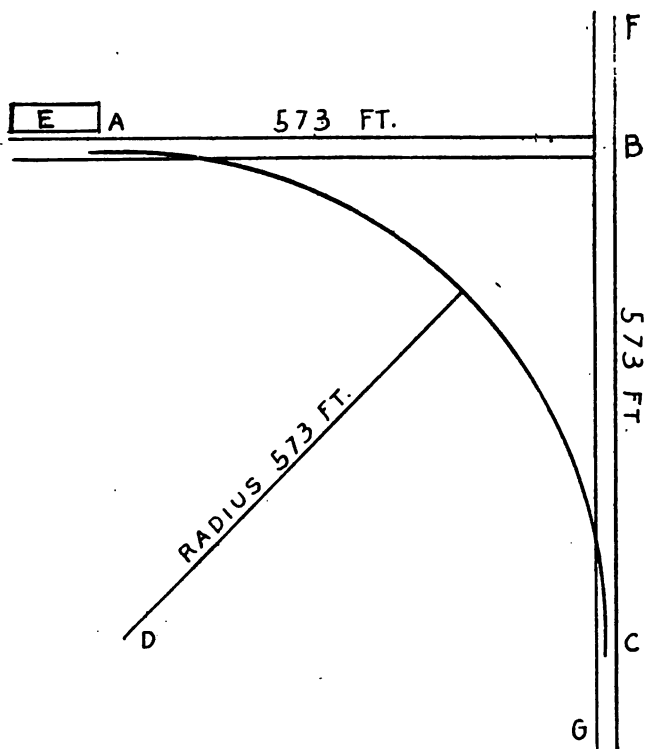
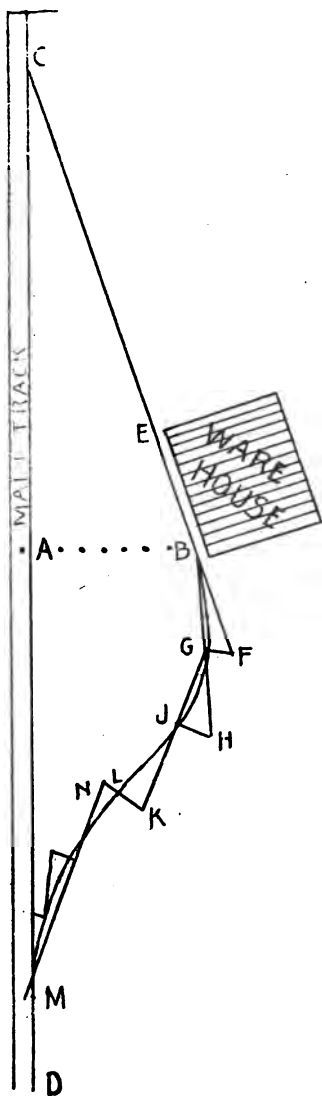

Fig. 18.
Fig. 19.
- I, RADIUS AND DEGREE OF CURVES, Fig. 18—2, Curve Radius—3, Method of Staking or Laying out a Side Track without the Aid of Transit or Chain, Fig. 19—4, To Lay Out a Four Degree Curve—5, To Lay Out a Curve by the Eye, Fig. 20—6, Radii, Ordinates, Tangent and Chord Deflections, Table III—7, To Find the Radius of a Curve Required to Reach any Desired Object, the Point of Curve being known, Fig. 21—8, Method of Laying a Spur Track Curve, Fig. 22—9, Three Methods of Finding the Difference in Length Between the Inner and Outer Rails of a Curve—10, Broken or Staggered Joints, Tables IV and V.
1. Figure 18 illustrates a very simple method by which to determine the radius or degree and point of curve. When the curve holds 90 degrees of angle, the radius is the same length as the tangents of the curve. As shown in the example, the letters, G and F, represent the rails of a piece of straight track from which it is desired to turn out a curve track, which, when distant from said track 573 feet and at right angles with it, will parallel a building, marked E, also with straight track.
EXAMPLE:—A and B, Fig. 19, are the ends of a line running across from a permanent track to a point where outside rail of the new track will pass a building. The length of this line one hundred feet, the number of the frog we will suppose to be one to seven; 7×100 equals 700, the distance from A to C. The point of frog should
4. The method of procedure when laying out curve track is more difficult than a straight track but simple enough when once understood. A knowledge of the deflection distances of curves is essential and is given in table III. Let E B represent the center line of a straight track running parallel with the building shown in figure 19, set a stake at E, and one at B, then set a third stake at F, one hundred feet ahead of B, making E, B and F all in a straight line. The tangent deflection distance for a 4 degree curve is $3\frac{1}{2}$ feet or the distance as shown from F to G, set a stake at G, square with the stake at F. G is then the first center stake in a four degree curve, now measure one hundred feet from G and set another stake at H in a line with B and